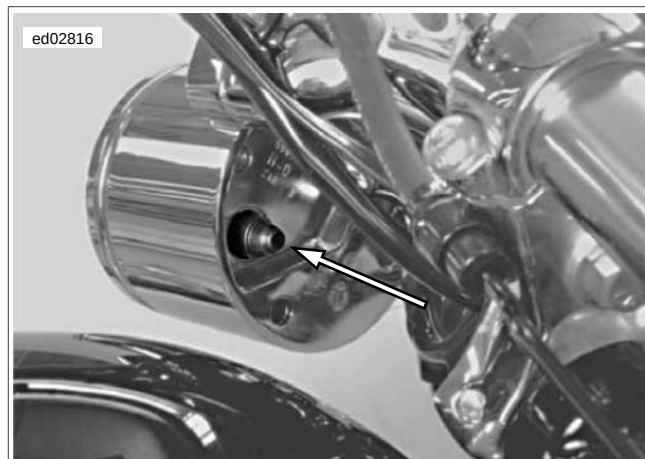

Figure 2-7. Trip Odometer Reset Switch (Typical)
- For a quick check of instrument function, a "WOW" test can be performed. See Figure 2-7. Press and hold trip odometer reset switch, then turn ignition switch ON. Release trip odometer reset switch. Background lighting should illuminate, gauge needle should sweep its full range of motion, and indicator lamps (check engine, low fuel, battery and security) should illuminate.
Figure 2-7. Pressing the trip odometer reset switch provides the following capabilities: